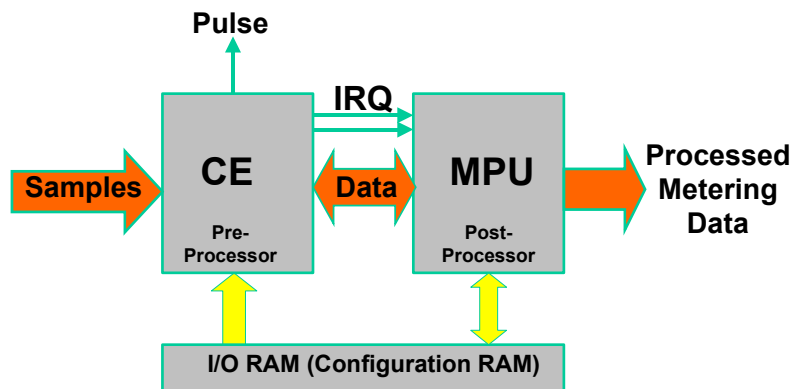

Figure 26: MPU/CE Data Flow
The data flow between CE and MPU is shown in Figure 26. In a typical application, the 32-bit compute engine (CE) sequentially processes the samples from the voltage inputs on pins IA, VA, IB, and VB, performing calculations to measure active power (Wh). These measurements are then accessed by the MPU, processed further and output using the peripheral devices available to the MPU.